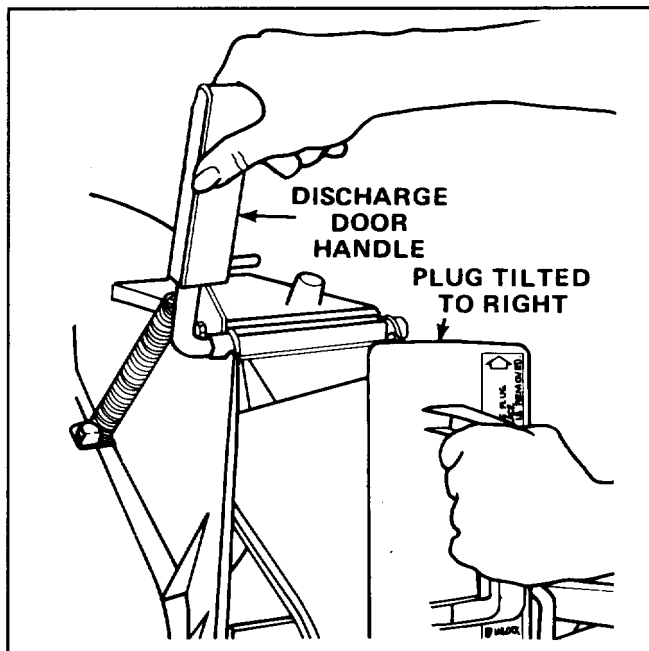

Figure 3
1. Make sure engine is turned off. Open the discharge door by pulling forward on the handle and rotating it rearwards (Fig. 3). Hold the discharge door handle to prevent the spring-loaded door from closing while inserting the plug.
2. Since the plug is slightly wider than the discharge tunnel opening, you must tilt the plug slightly to the right while inserting it (Fig. 3). Make sure the arrow on the plug decal is pointing upwards.